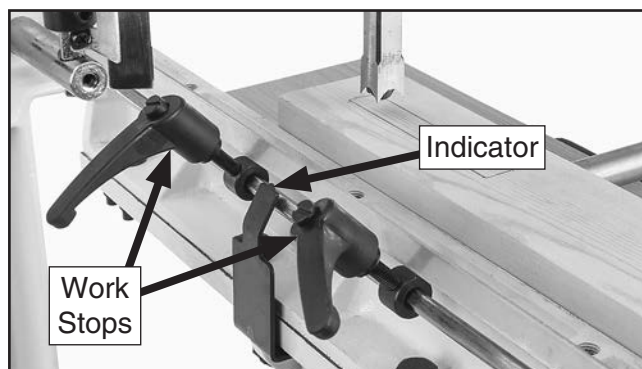

Figure 27. Setting table work stops.
2. Tighten work stop against indicator (see **Figure 27**) and turn X-axis handwheel until opposite edge of mortise is reached. Set remaining work stop against indicator to limit table travel and perform cuts as outlined in **Cutting a Mortise on Page 22**.